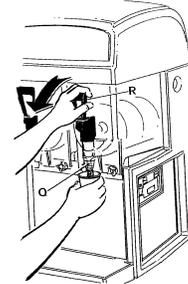

FIGURE 11
1. To dispense the product, place the cup beneath the dispensing valve (Q) and pull the lever (R) very gently (FIGURE 11).